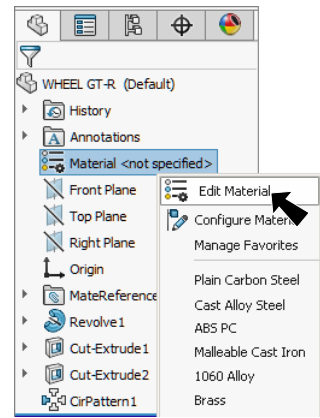

Fig. 23
- Step 1. Right click Material  in the Feature Manager and click **Edit Material**, Fig. 23.